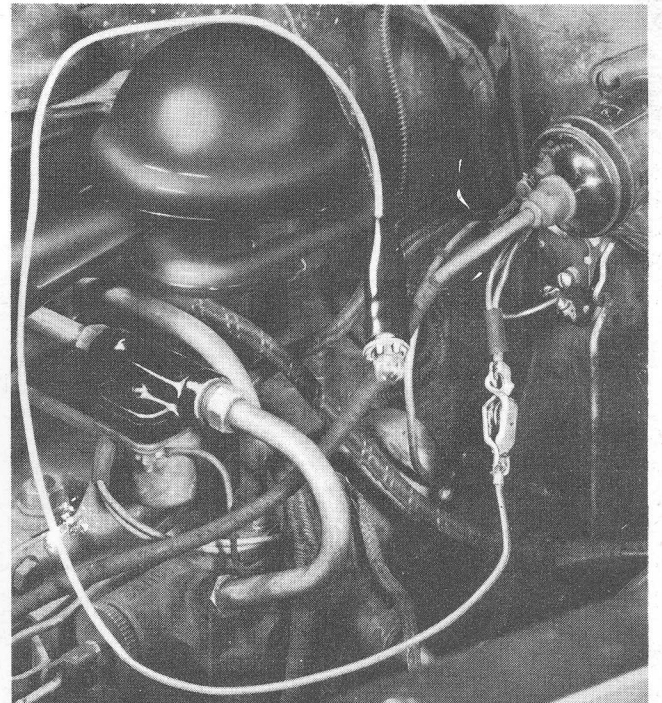

Figure 17—Light Should Be Off with Shift Lever in High—On when Lever Is Moved toward Neutral
a. Disconnect the green lead from the terminal of the accelerator switch. Clip one test light lead to the green lead (Fig. 17) and the other test light lead to the main feed terminal (C) of the Electromatic relay (Fig. 6). Place the shifting lever in high gear position. The light should *not burn*.
Test Light Connection, 20th Series: Disconnect the double green wire from the accelerator switch terminal (Fig. 17). Clip one lead of the test light to the relay main feed terminal (C, Fig. 6) and the other lead of the test light to the disconnected wires.
Check adjustment of switch. Test switch with test lamp (Fig. 17). Switch should be open when plunger is depressed 1/8 inch when shift lever is in high gear position. Adjust switch so that the contacts close just as the shift lever linkage free play is taken up. Replace the switch if it is faulty. Check wiring to switch for ground.
Test direct speed switch as shown in Fig. 17 and adjust according to instructions.